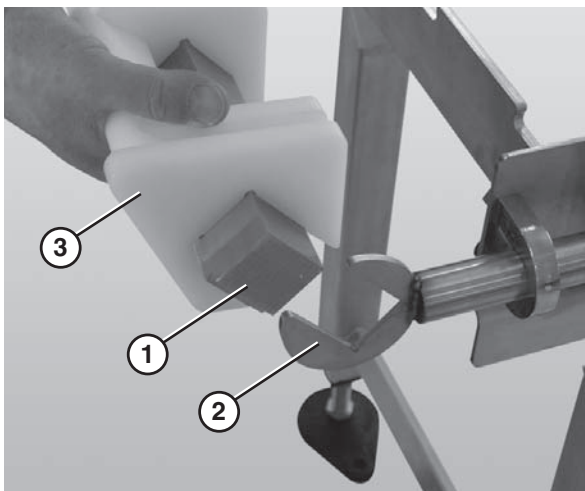

Figure 64
- Slide the nose bar drive or transfer post (**Figure 64, item 1**) out of the nose bar drive weldment or idler hands (**Figure 64, item 2**).
- Remove the nose bar tracking pucks (**Figure 64, item 3**), if applicable.